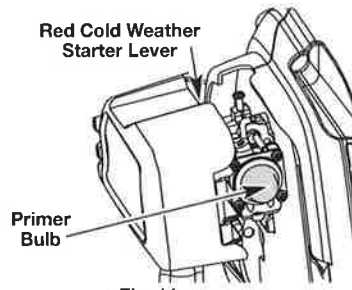

Fig. 11
IF COLD... In cold weather conditions (below 40°F), push the red cold weather start lever (Fig. 11) down to the closed position and continue to step 3. **DO NOT** push this lever down if the temperature is above 40°F.
3. Fully press and release the primer bulb 10 times, slowly. Some amount of fuel should be visible in the primer bulb (Fig. 11). If fuel cannot be seen in the bulb, press and release the bulb until fuel is visible.
IF COLD... For cold weather conditions (below 40°F), push the red cold weather start lever (Fig. 11) down to the closed position and continue to step 3. **DO NOT** push this lever down if the temperature is above 40°F.
3. Fully press and release the primer bulb 10 times, slowly. Some amount of fuel should be visible in the primer bulb (Fig. 11). If fuel can not be seen in the bulb, press and release the bulb until fuel is visible.
5. Press and hold the ON (I) button of the Plug-in Power Start or Power Bit Start equipped drill in intervals no longer than 2 seconds each until the unit starts.